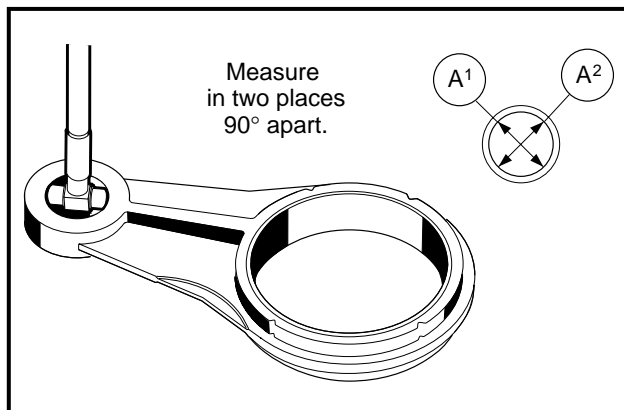

Figure 13-78 Measure Small Bore I.D.
- 1.2. If the inside diameter of the small end is greater than 0.4746 inch (12.057 mm), replace the link rod (**Figure 13-78, Page 13-37**).